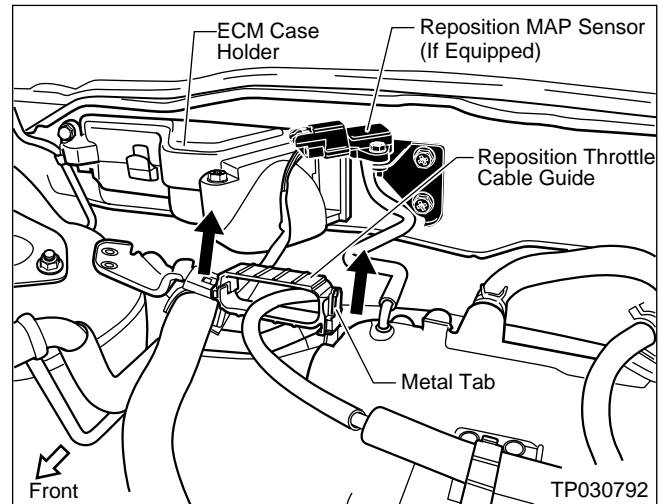

Figure 5
4. If equipped, remove two Screws and re-position the Manifold Absolute Pressure (MAP) Sensor (see Figure 5).
5. Re-position the Throttle Cable Guide by removing it from the Metal Tab (see Figure 5).